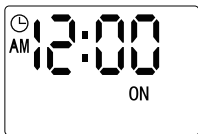

Figure 4-1
- Press the "ON" button, the timer is always ON, and the screen displays shown in Figure 4-1.